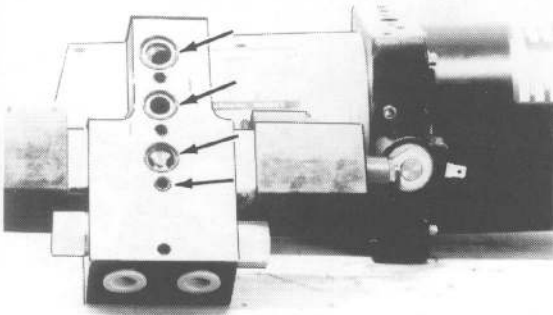

Figure 2-6
3. Install the four O-ring seals into the proper cavities (apply a light film of Petroleum jelly to hold them in place). See Figure 2-6.